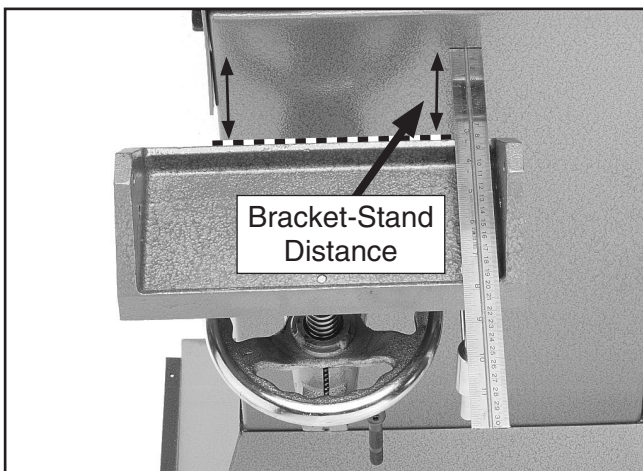

Figure 21. Checking table bracket for parallelism.
11. Measure the distance between the table bracket and stand, checking that the bracket is parallel to the stand, as shown in **Figure 21**.